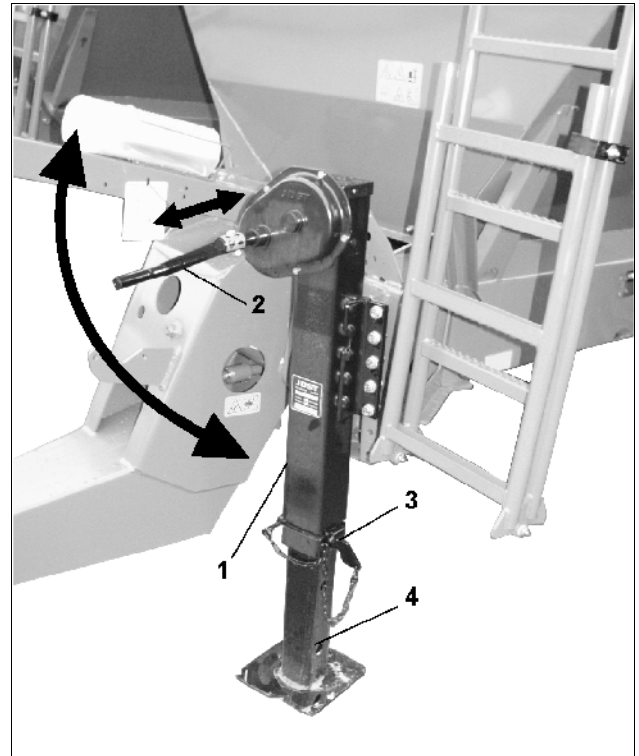

Fig. 24
- Pull the pin (Fig. 24/4) off the lower hole.
- Lower the support leg (Fig. 24/1)